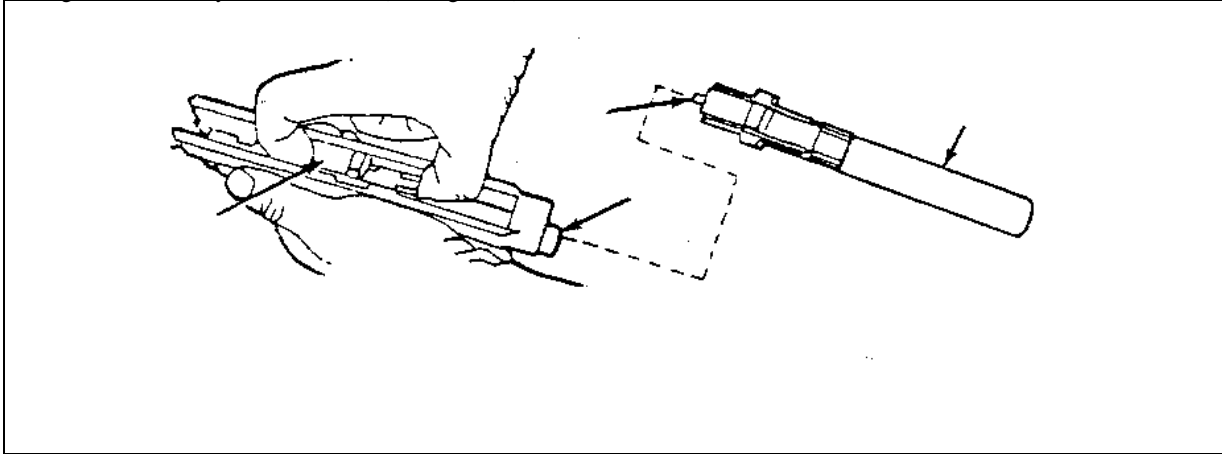

Figure 6. Removal of locking barrel assembly from slide
- f. Push in on the locking block plunger while pushing the barrel forward slightly. Lift and remove the locking/barrel assembly from the slide. (See Figure 6.)